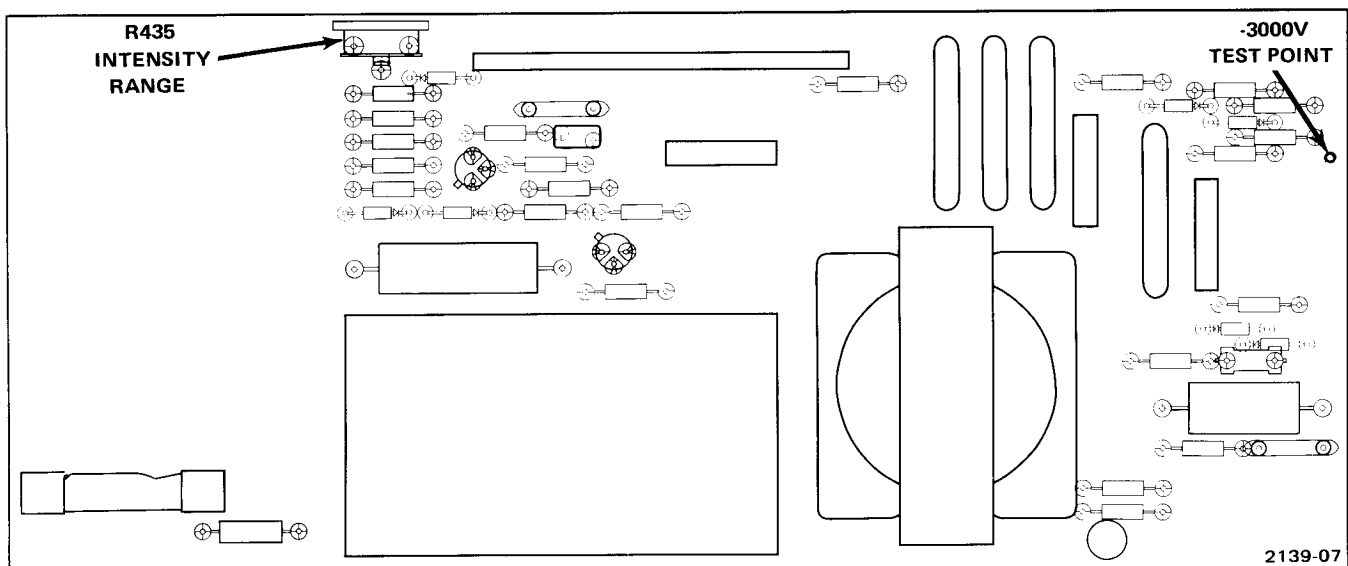

Fig. 5-2. Location of Intensity Range and HV test point on High Voltage assembly. (Board shown with cover removed.)
d. Set the dc voltmeter (vom) to measure at least -3000 volts dc and connect it between HV Test Point and chassis ground. See Fig. 5-2 for test point location.
c. ADJUST—Intensity Range R435 so spot is just extinguished. See Fig. 5-2 for adjustment location.